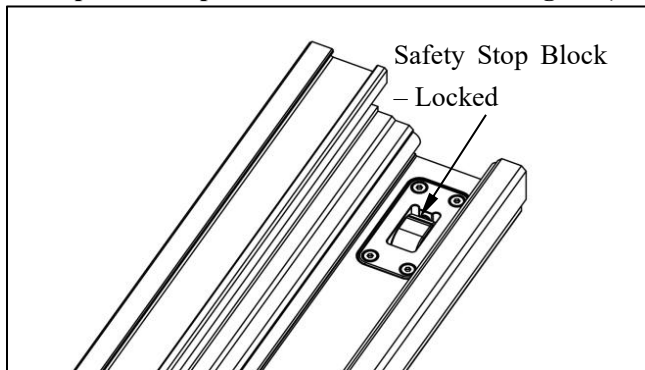
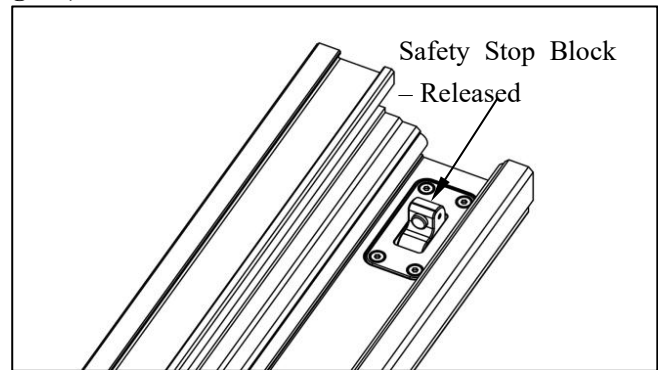

Fig. 16
Fig. 17
- Ensure the Fence Body Assembly (A) is installed without tilting downward into the Scale Stop Blocks to avoid damaging the Scale Viewers.
- Before installation, press down the Safety Stop Block on the rail (see Fig. 16). After installation, release the stop block to prevent the fence from sliding off (see Fig. 17).